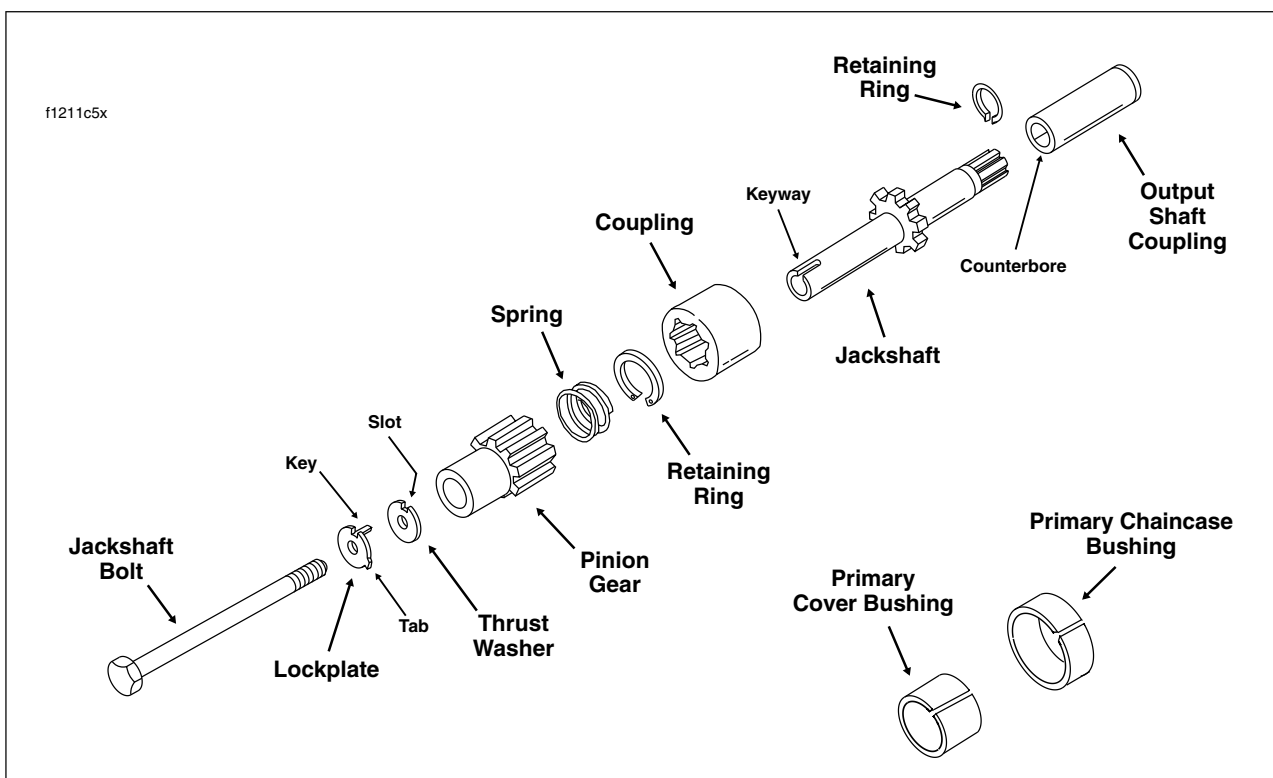

Figure 5-22. Starter Jackshaft Assembly
4. Bend tab on lockplate away from head of jackshaft bolt. See Figure 5-22.